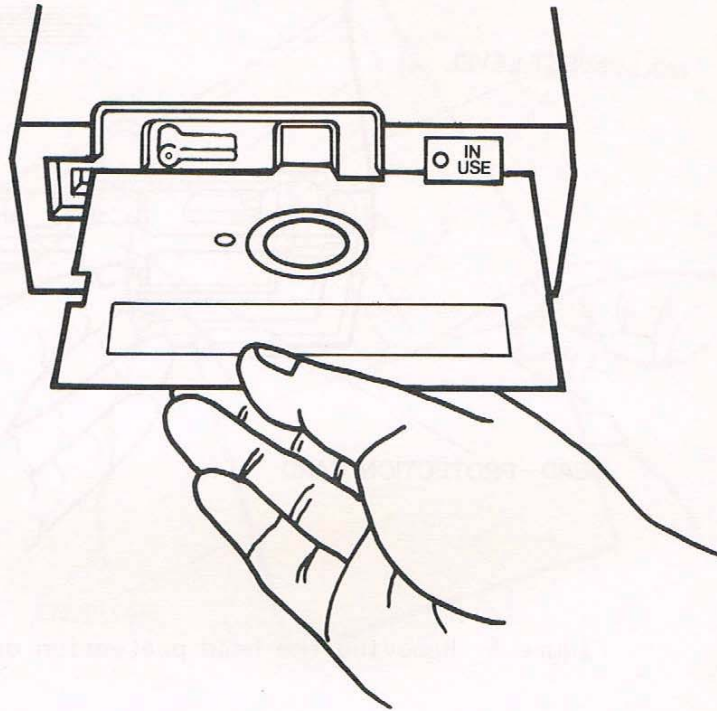

Figure 6 Inserting a disk
- Step 5.** With the diskette label facing up and the head window towards the slot on the SVI-707 insert the diskette into the slot (see figure 6).